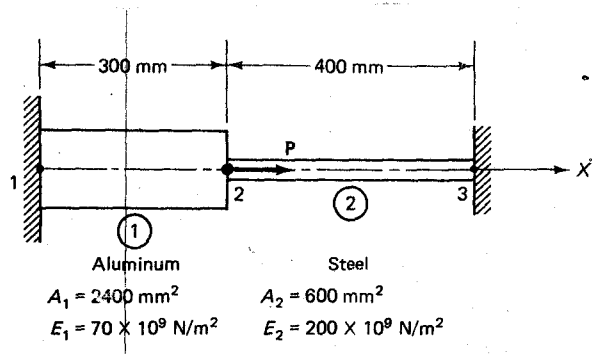

Fig.1
- (i) Consider the bar shown in fig.1 An axial load  $p=200 \times 10^3 \text{N}$  is applied as shown, Using the penalty approach for handling boundary conditioned, do the following.